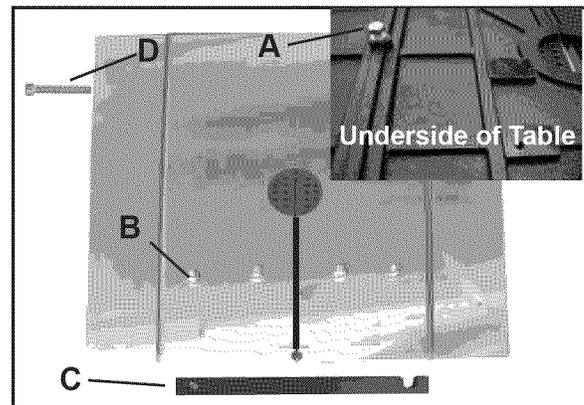

Figure 2
Installing 90° stop: Thread screw (M8x25) and nut (M8) to the bottom of the table. (A-Fig.2) With the help of another person, lift the working table onto the trunnion. Mount the working table to the trunnion using the supplied (4) hex bolts, (4) lock washers and (4) washers (B-Fig.2). Install the two bolts to the right of the blade hand tight, then tip the table to 45 degrees and install the two bolts to the left of the blade. Adjust table parallel to blade and tighten bolts.
Table Leveling Bar: The table leveling bar is preinstalled from the factory and must be removed before installing the table. The table leveling bar keeps the two sides of the blade slot level. (C-Fig. 2)
Fence Support Bolt: Install the fence support bolt in the left rear corner of the table. (D-Fig. 2)